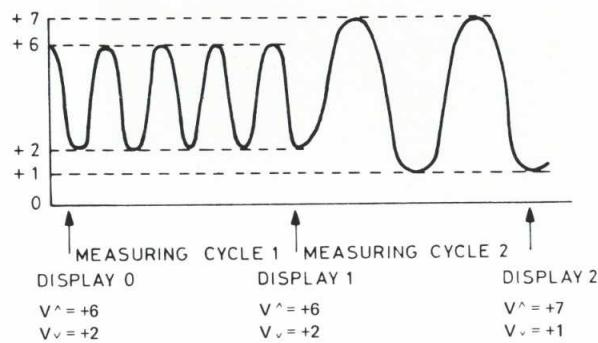

Fig. 18. V^{\wedge} and V_{\vee} measurement in INT START mode.
- Internal starting of measurements (INT START, fig. 18).